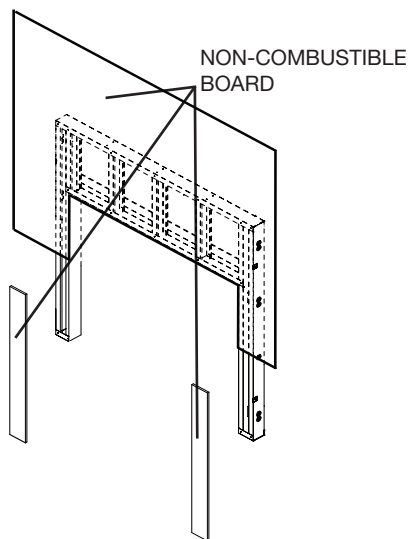

Figure 10: Non-combustible board location.
If the backer board is not to be finished with other non-combustible material such as tiles, it is recommended that the instructions in (Figure 10) be followed closely.
**CAUTION:** See Figure 10 on page 9 BEFORE PROCEEDING.